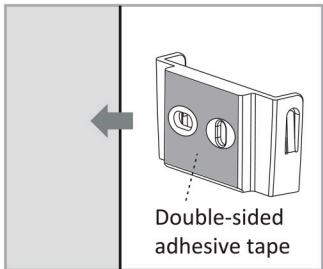

FIG .4-A
4.2.2 Stick the wall bracket on the wall by attached double-sided adhesive tape (See FIG.4-A), then slide CPD-DUALTECH-RC into it (See FIG.4-B).